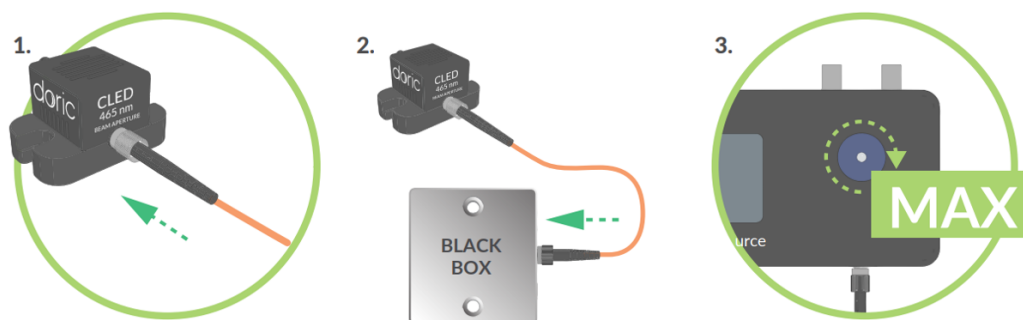

Figure 2.3: Optical patch cords can be connected directly to the LED for a more efficient photobleaching
*** If the LED is external, the patch cord and rotary joint can be connected directly to the LED for improved efficiency (see figure 2.3).